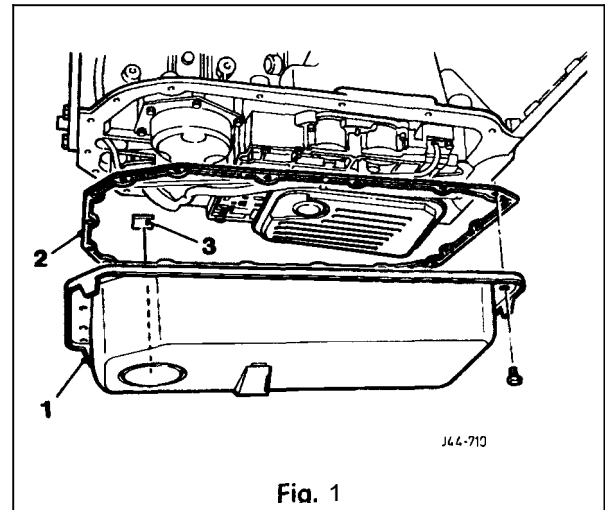

Fig. 1
- Remove the fluid pan (1 Fig. 1) and gasket (2 Fig. 1).
- Remove the magnet (3 Fig. 1) from the fluid pan.
- Remove the magnet (3 Fig. 1) from the fluid pan; clean the magnet.